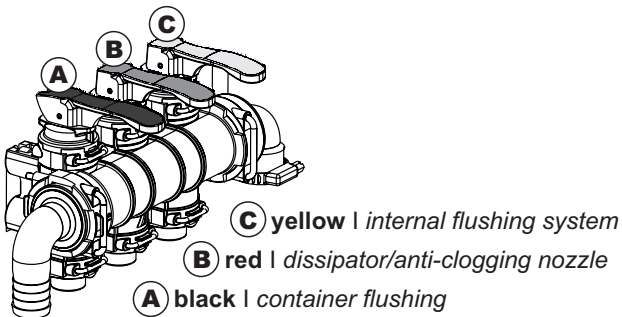

Fig. 5
- **WITH CLOSED LID**, pour about five liters of water and lift the **yellow lever (C, Fig. 5)**;
- Keeping the container **IN POSITION**, start the jet by lifting the **black lever (A, Fig. 5 + Fig. 6b)** to flush the container.
- Lift the **yellow lever C** again (Fig. 5) to pour the necessary amount of water for a correct premixing.
- Lower the **yellow lever C** (Fig. 5).
Lift all the three levers (A, B and C, Fig. 5): by doing so, all the nozzles will be started to flush the internal walls.
Now stop any water flow inside the Mixer by lowering **all the three levers (A, B and C, Fig. 5).**